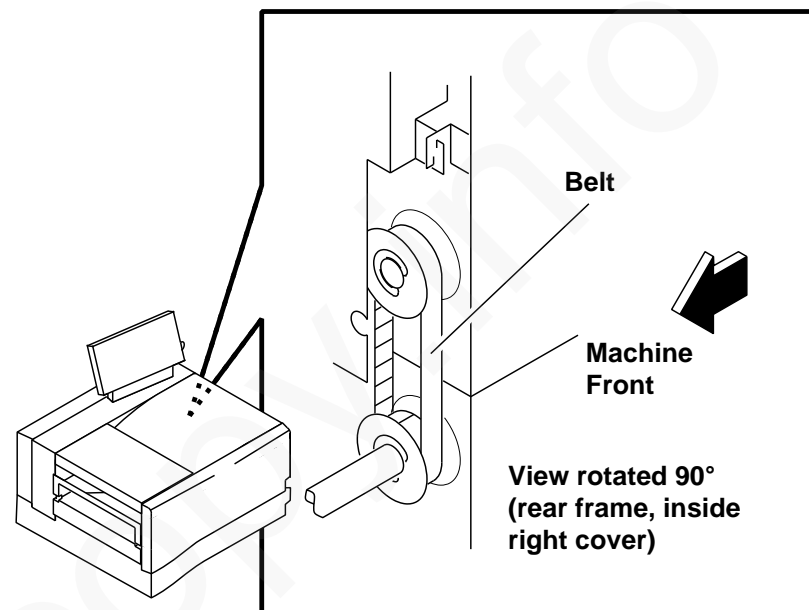

Figure 3. Drive belt installation
- c. Install the drive belt on the paper input roller gear (Figure 3).